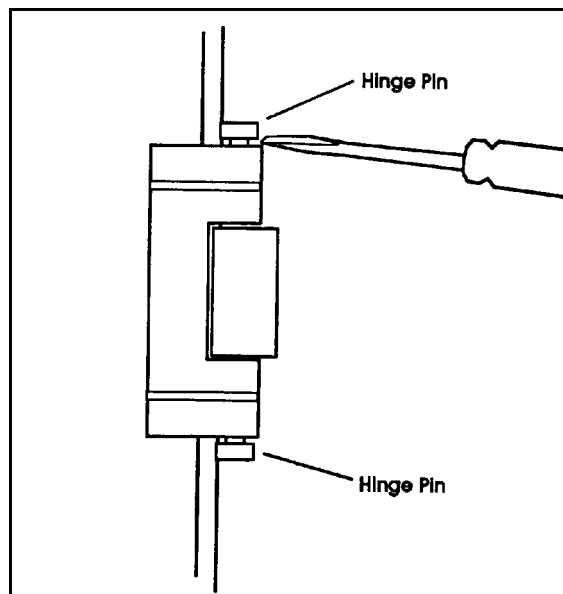

Figure 5-1. Hinge Assembly Detail
5. Use a medium, flat-blade screwdriver to lift up (or pull down) the hinge pins approximately 1/2 inch until the hinge assembly mounted on the door is no longer captured by the hinge pins. *Do not entirely remove the hinge pins from the hinge assembly.* See Figure 5-1.
3. Use a medium flat-blade screwdriver to lift up (or pull down) the hinge pins approximately 1/2 inch until the hinge assembly mounted on the door is no longer captured by the hinge pins. *Do not entirely remove the hinge pins from the hinge assembly.* See Figure 5-1.